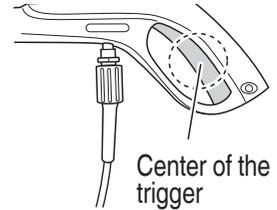

Fig. 13
- Place your finger in the center of the trigger during operations (Fig. 13)